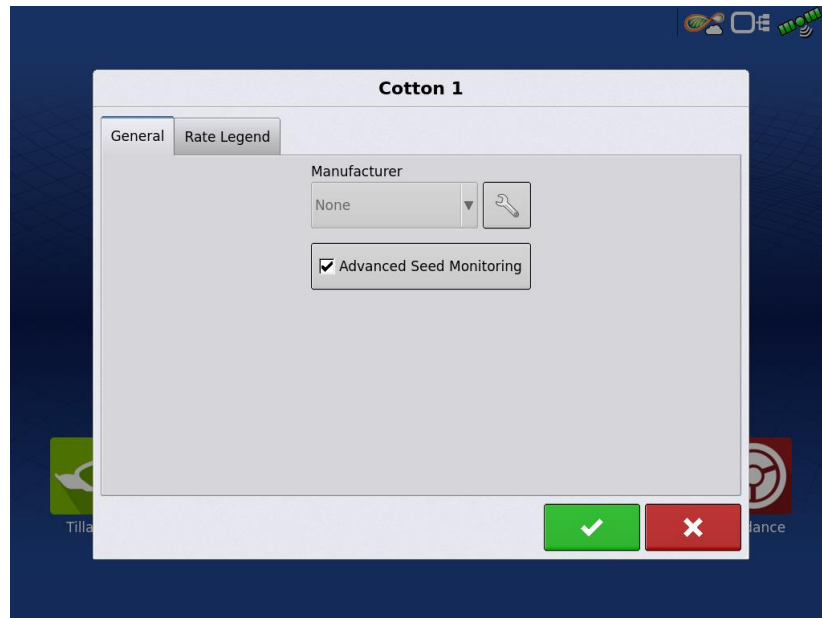

Figure 2 – Enable/Disable Advanced Seed Monitoring screen
- **NEW:** Option to enable/disable Advanced Seed Monitoring for any crop type (Seed flow limits still apply) (Figure 2)
- **ENHANCED:** Increased custom user permission options (Figure 2)